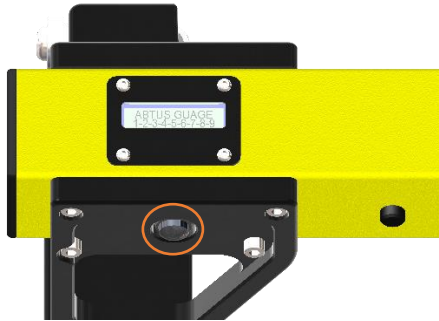

Figure 8
1. To measure cant / super elevation press the black button at the left end of the gauge (Figure 8). This will turn on the display directly above the button and will show the SE readings.